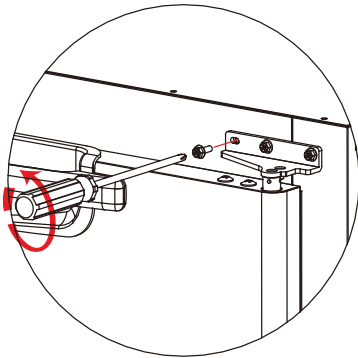

Fig 9-25
7. While supporting the door so it does not detach, unscrew the three bolts that hold the upper hinge in place. (Fig 9-25)